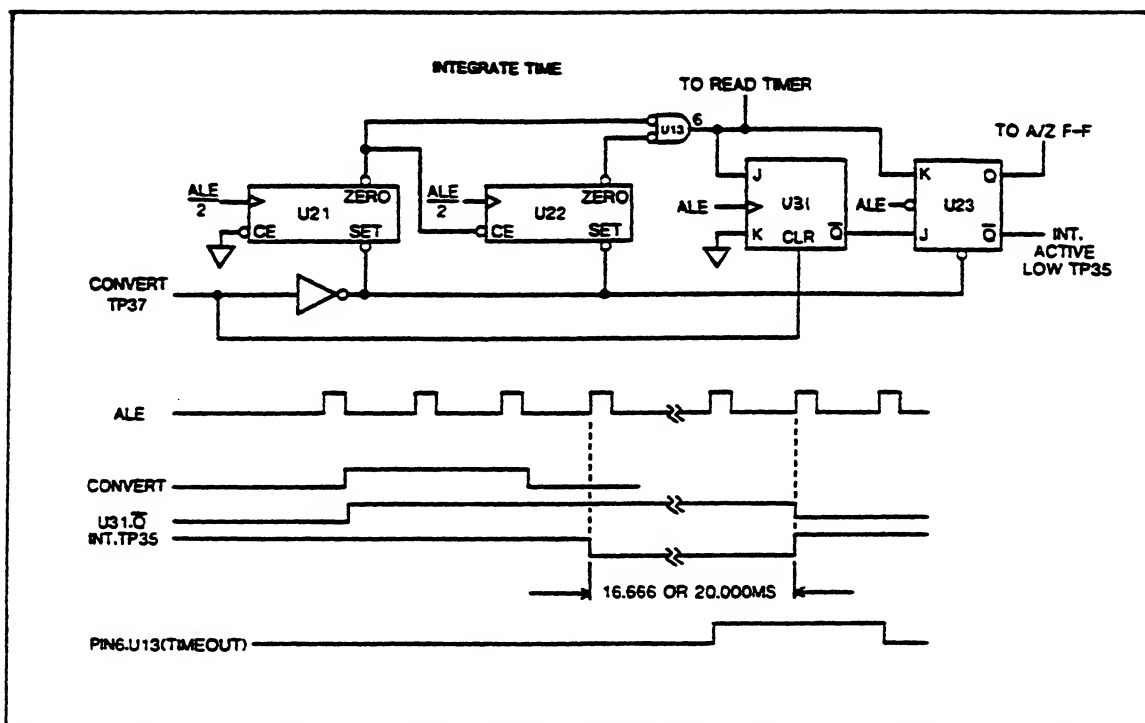

Figure 161-4. Integrate Timer Simplified Schematic and Timing Diagram
Refer to Figure 161-4 for a simplified schematic and timing diagram of the integrate timer. In response to a convert command from the A/D controller, J-K flip-flops U31 and U23 are reset, and counters U21 and U22 are loaded. The next ALE pulse sets U23, asserting the INTG(L) signal. Subsequent ALE pulses decrement the counters until both reach zero, causing U13 to output a timeout signal. The next ALE pulse toggles U23 to terminate the INTG(L) signal and sets U31 to prevent spurious integrate commands.